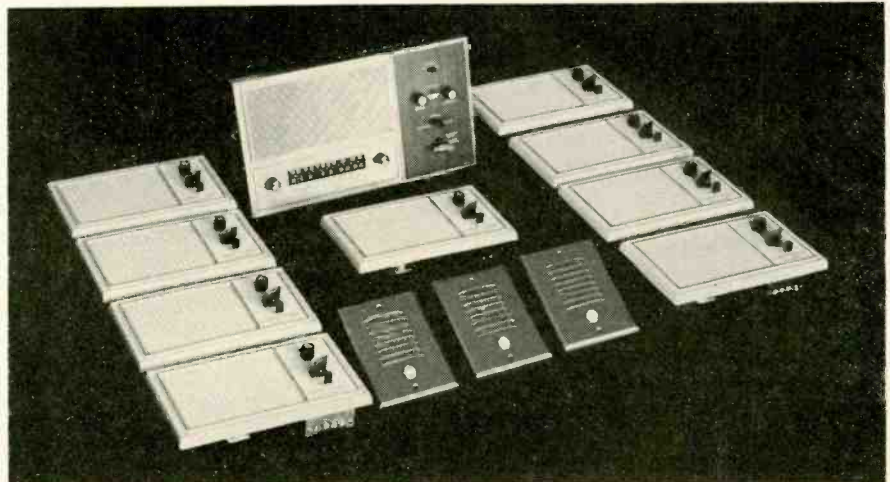

Fig. 2—Combination intercom and AM/FM radio system is easy to install. Two remotes were made portable to expand system to 16 positions without overloading.
6. The last adjustment is setting the phase relationship between the 19-kHz pilot and the 38-kHz switching signals. Set S1 and S2 to EXT. Apply a 0.2-volt rms 100-Hz signal to both J1 and J3. Set S3 to L - R. Set S5 to PILOT. You will probably have a scope pattern which closely resembles Fig. 2-f. This photo shows incorrect phase relationship. Adjust R11 until the tips of the brighter center portions of the pattern are opposite each other as shown in Fig. 2-g.
3. The third method is the opposite of the second. The scope is connected to the output of the last stage as in Fig. 2-a. Now the signal is applied to the input of this stage and, if an output signal is obtained, the generator is moved to the input of the second stage to see if the signal gets through this circuit also. Again, only one instrument lead needs to be shifted.
4. The fourth method is to take advantage of the broadcast signal and thus dispense with the signal generator. The scope is moved from stage to stage until no signal output is observed. This is shown in Fig. 2-b.
Fig. 2—Two more signal-tracing methods. In a, oscilloscope is across the output of the circuit while the signal generator is moved from stage to stage until the signal disappears to pinpoint the defective stage. In b, the scope follows the signal from the input through successive stages until the signal is lost.